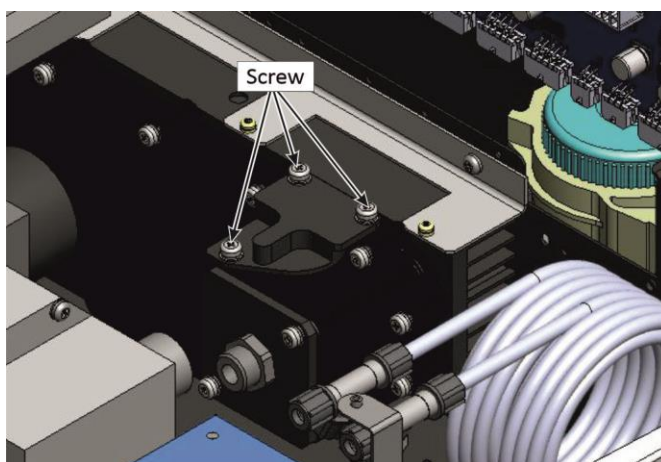

Figure 139 – Remove Desiccant Access Cap
2. Refer to Figure 139. Using an Phillips head screwdriver, remove the desiccant pack access cap from the PMT housing.